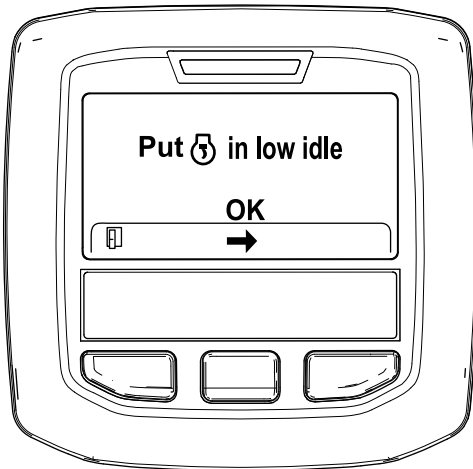

Figure 37
6. Move the throttle control to LOW IDLE and press the center button (Figure 37).